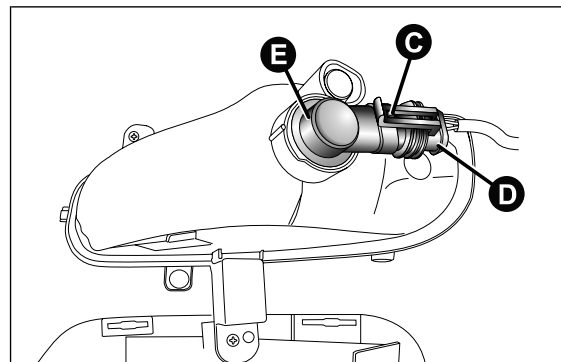

fig. I 27
- ☐ adjust the catch C fig. I 27 and disconnect the electrical connector D;